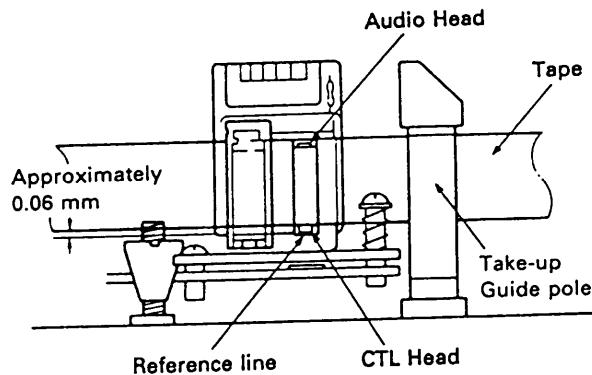

Fig. 7-7 Audio/CTL Head height
- c) Carefully and evenly adjust screws ⑧ and ⑨, and nut ⑩ to align the Audio/CTL Head height with the tape as shown in Fig. 7-7.
- If the tape separates from the take-up guide pole or wrinkling occurs, screw ⑨ (Fig. 7-7) has been turned excessively with respect to nut ⑩ and screw ⑧ causing the Audio/CTL Head to incline forward or backward. Use care to adjust screws ⑧ and ⑨, and nut ⑩ evenly and observe that small wrinkles are not produced at the take-up guide pole.